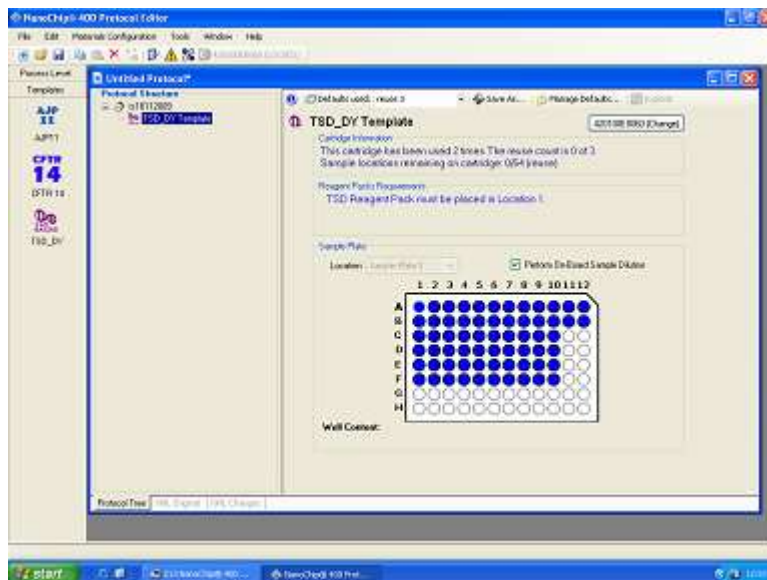

Figure 4. Protocol Editor Screen
6. When a screen like the one shown in figure 4 appears, mark the wells with the samples on the plate drawing and select **"Perform On Board Dilution"**.